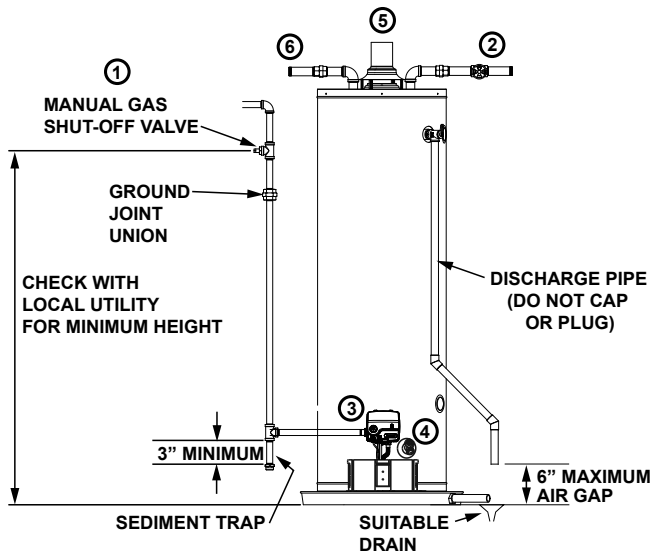

FIGURE 2.
If the main gas line shutoff valve serving all gas appliances is used, also shut "OFF" the gas at each appliance. Leave all gas appliances shut "OFF" until the water heater installation is completed. See Figures 2 and 3.
- ② Open a nearby hot water faucet until the water is no longer hot. When the water has cooled, turn "OFF" the water supply to the water heater at the water shut off valve or water meter. Some installations require that the water be turned off to the entire house. See Figures 2 and 4.
- ④ Attach a hose to the water heater drain valve and put the other end in a floor drain or outdoors. (See Figures 2 and 5.) Open the water heater drain valve.